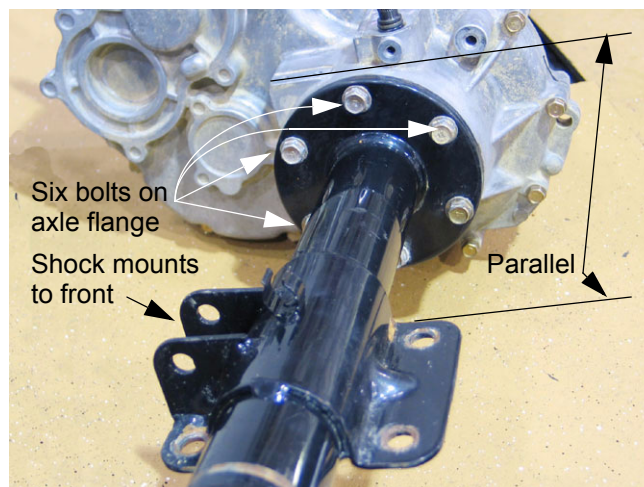

Figure 9.12
9.12. Remove the six bolts that secure the flange of each axle tube to the transaxle housing using a 12mm wrench. See Figure 9.12.